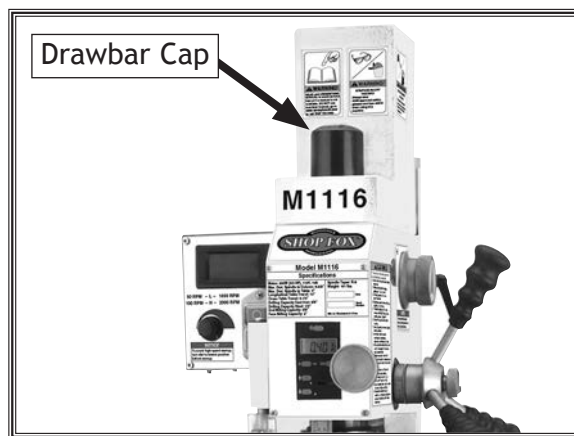

Figure 24. Location of drawbar cap.
2. Remove drawbar cap (see Figure 24).